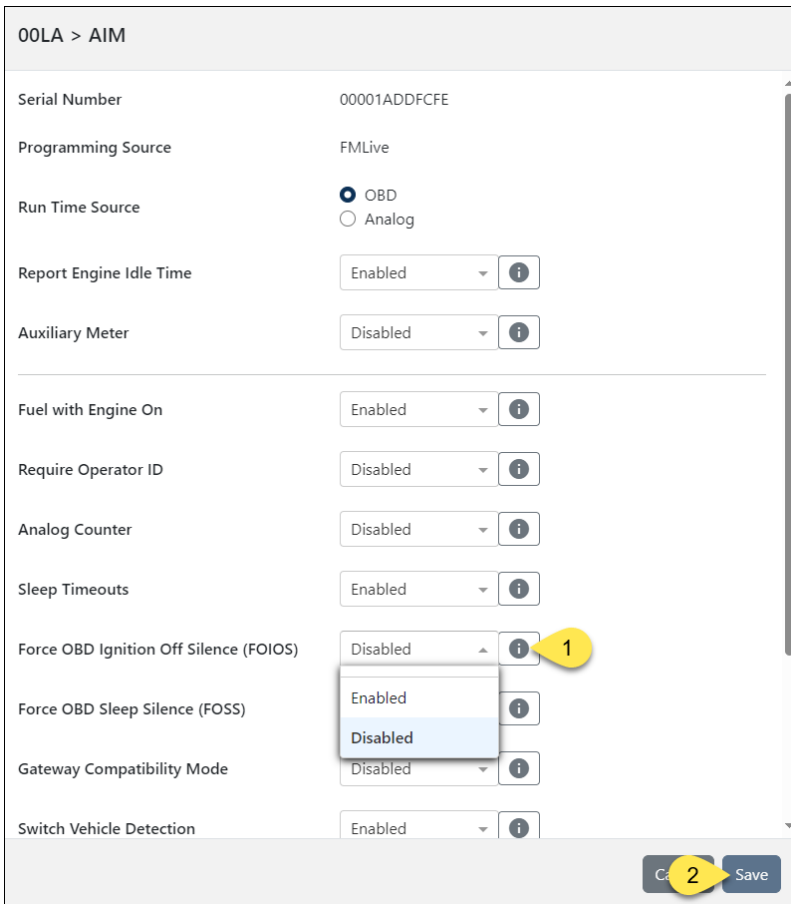

Figure 1
1. Tick the FOIOS checkbox (Figure 1). Once the ignition is off, the AIM will no longer send OBD requests.